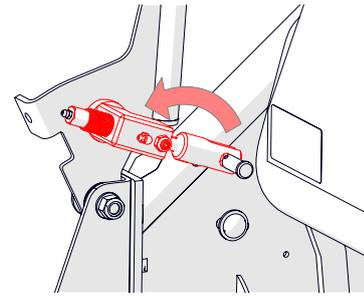

Fig.12G - Remove the pivot block and adjuster
7. For both sides, remove the clevis pin from where the R-clip was removed. Remove both pivot blocks and adjusters away from the machine (Fig. 12G).